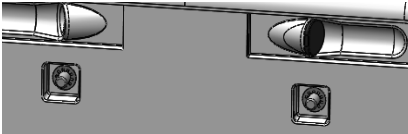

Figure 4 - Wire Knockouts in Back of Unit
- Pass wires through knockout hole in back of unit (Right/Left back). See Figures 4 and 5.
This water heater must be hard wired to the correct breaker size with the appropriate wire gauge. All wiring must conform to local code and the National Electric Code, and should be done by a qualified licensed electrician or the local electric utility. See Figures 4, 5, 10, and 11.